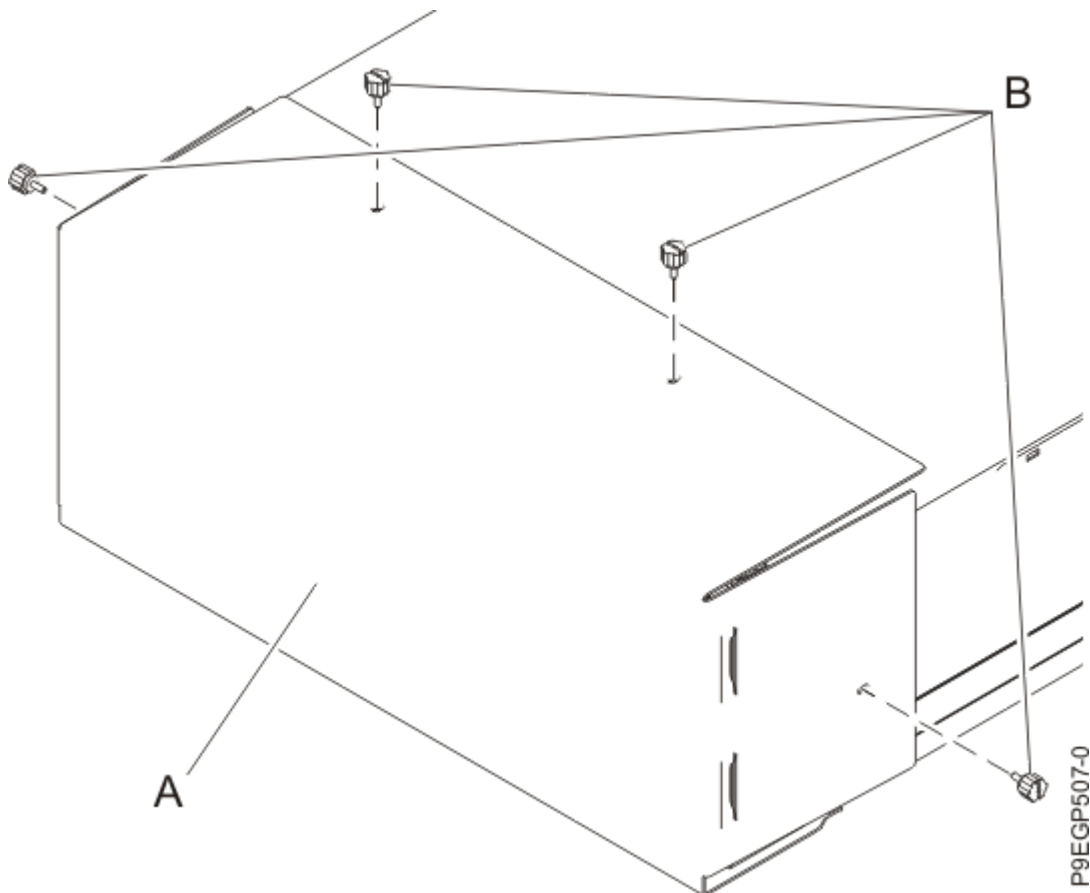

Figure 7. Removing the shipping cover
2. Remove the four thumb screws **(B)** that are used to secure the shipping cover **(A)** to the rear of the drawer, as shown in Figure 7 on page 10. Remove the shipping cover.